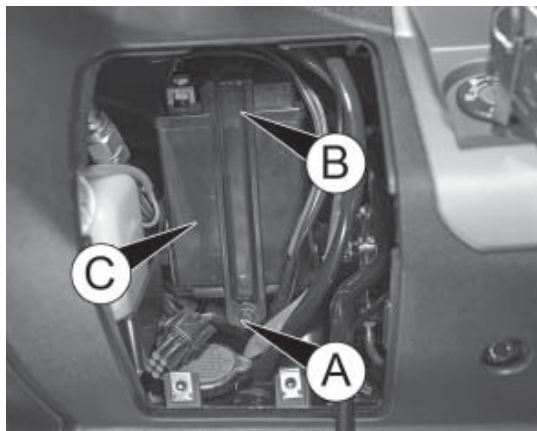

fig. 9
- Unscrew screw A fig. 9 and remove the bracket B, then extract the battery C from its seat